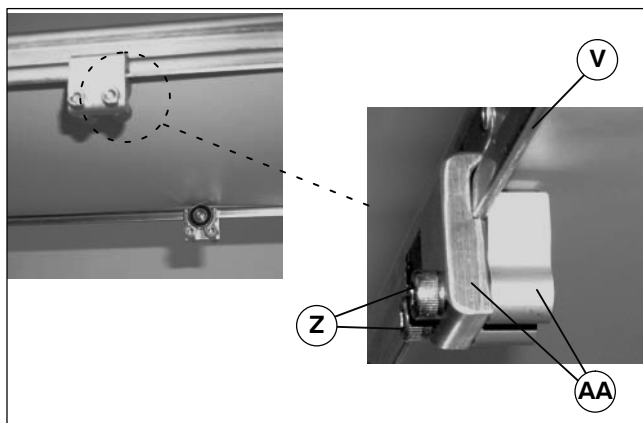

Figure 14
3. Attach return roller assembly (AA of Figure 14) on each side of conveyor (V). Tighten screws (Z) to 80 in-lb (9 Nm).